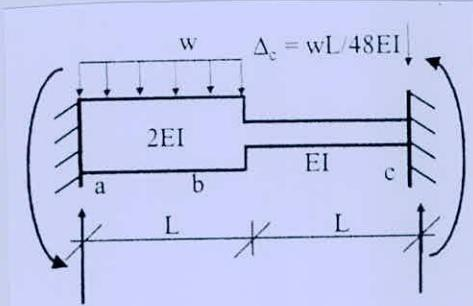

Figure 13
7. (a) The loading and support settlement conditions for the non-prismatic beam is shown in Figure 13 along with its geometry. Analyze the beam using flexibility method. In this process (i) Mention the degree of statical indeterminacy; (ii) Select a released structure from three options and mention the reasoning of your selection; (iii) State the support reactions and moments; (iv) Draw the bending moment diagrams.